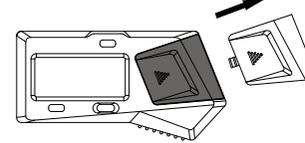

fig.1
- Remove the battery cover (fig.1)